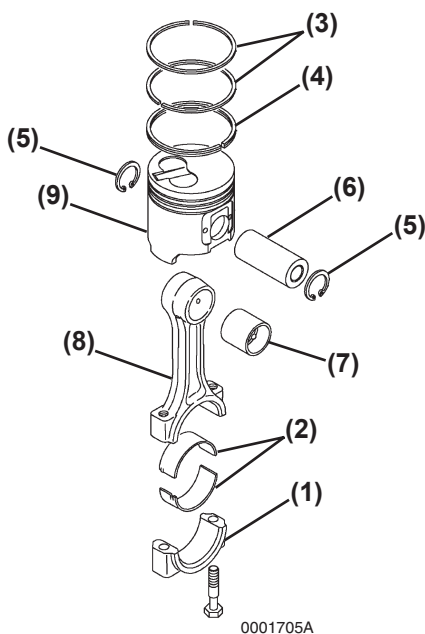

Figure 4-2-86
5. Lubricate and install the wrist pin (Figure 4-2-86, (6)) through the piston and connecting rod.
6. Reinstall the second circlip (Figure 4-2-86, (5)) and ensure it is securely seated in the groove.